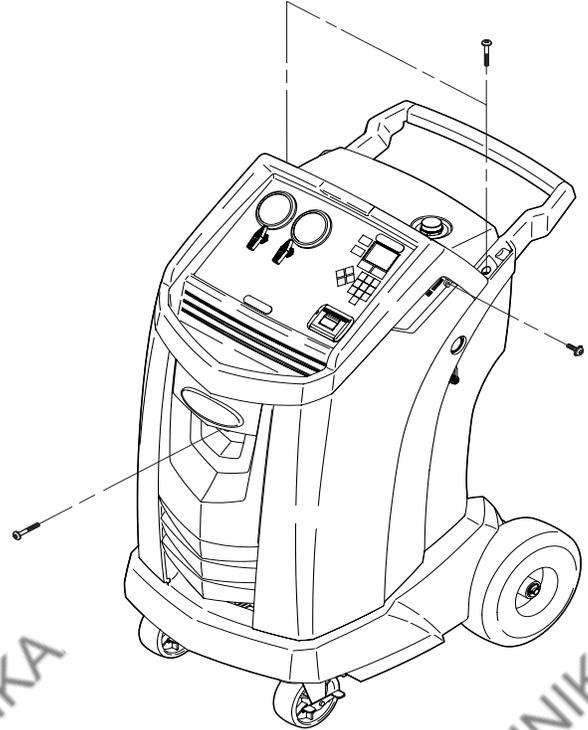

Figure 11
Shut off the machine. Remove the oil bottle. Remove the four screws holding the shroud. See Figure 11.
2. Remove the four screws holding the shroud. See Figure 11.